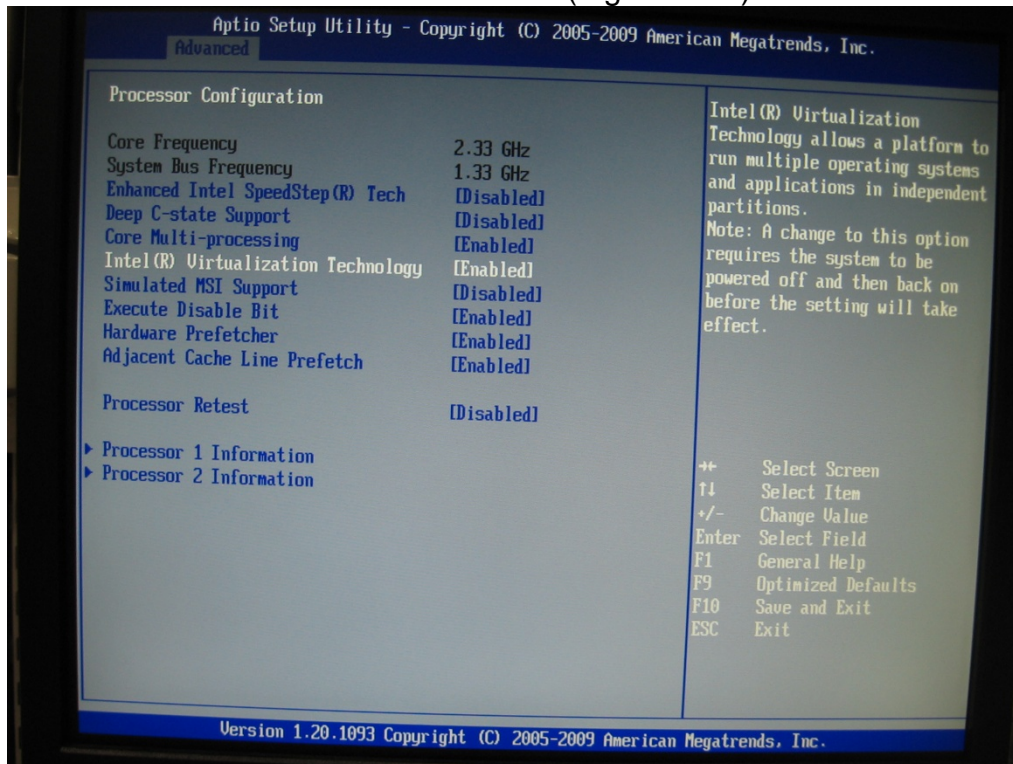

Figure 6-17 USB Configuration
7. In **Processor Confirmation** screen select **Intel Virtualization Technology** and press **Enter**. (Figure 6-17).